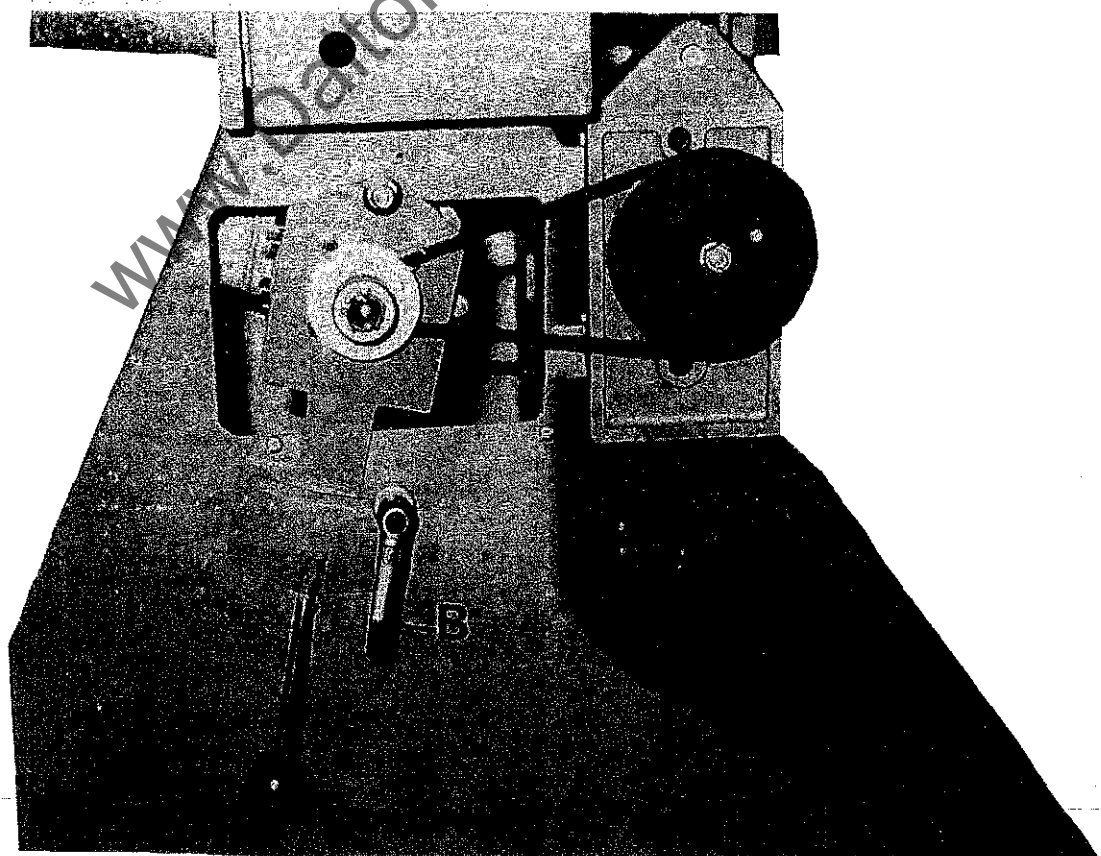

FIG. 26
- d) Release tension on pulleys by loosening locking handle 'B' FIG.26 and moving handle 'C'.